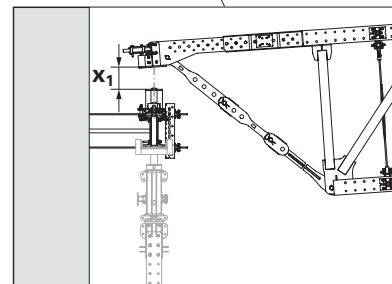
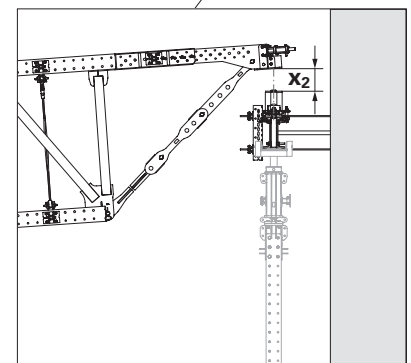

Fig. C1.01a
Fig. C1.01b
- If the two main beams are not at the same height, you must compensate for the difference in height when transporting by crane. The truss package must be set down on both main beams at the same time, dimension x_1 corresponds to dimension x_2 . (Fig. C1.01a + Fig. C1.01b)